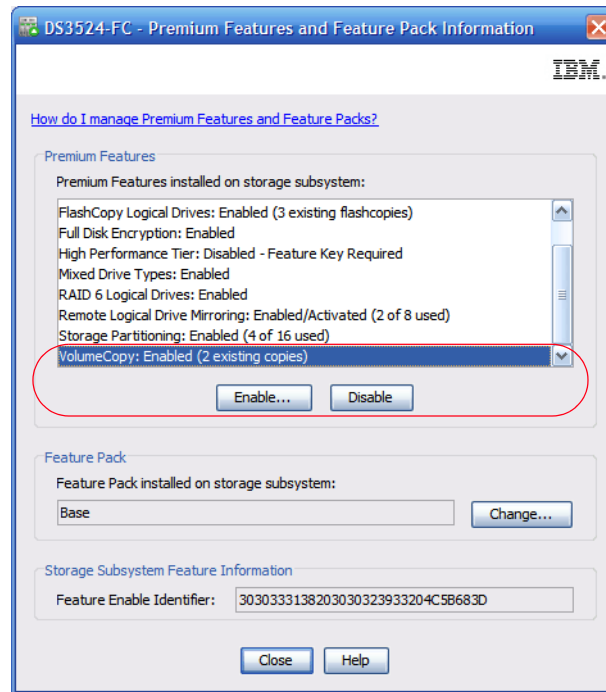

Figure 1-6 Premium Features and Feature Pack information
1. In the DS Storage Manager (Subsystem Management) window, click the **Storage Subsystem** → **Premium Features** menu command. The **Premium Features and Feature Pack information** window shown in Figure 1-6 on page 11 will open.
2. Highlight the premium feature that you want to disable, and then click the **Disable** button as shown in Figure 1-6 on page 11.